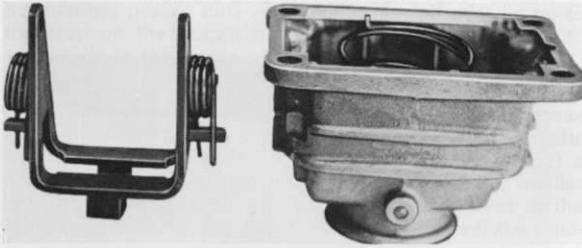

Fig. 66
1.3 Place ring (659) with the bore to the taper compression spring (628) in the shift turret (629). Place taper compression spring on the ring. Fasten **torsion springs** (633 and 633.1) to interlock swing as shown in Fig. 66. The stronger spring lies against the shorter tang.